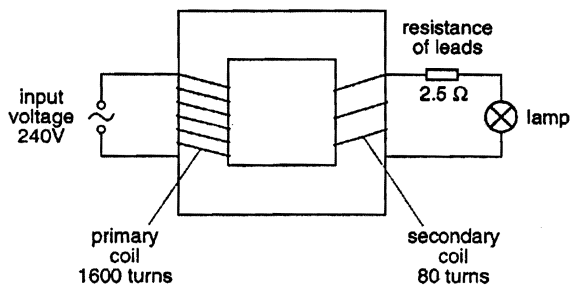

Fig. 14.2
- (b) A lamp is connected to the secondary coil of the transformer by long leads which have a resistance of 2.5Ω , as shown in Fig. 14.2. (In this diagram, the resistance of the leads is shown as a single resistor of value 2.5Ω .)